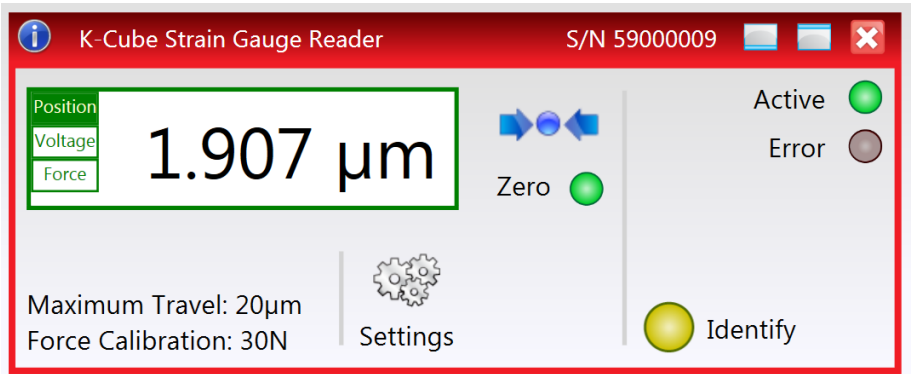

Fig. 4.2 Strain Gauge Reader Software GUI
2) The GUI panel for the Strain Gauge Reader K-Cube is displayed - see Fig. 4.2.